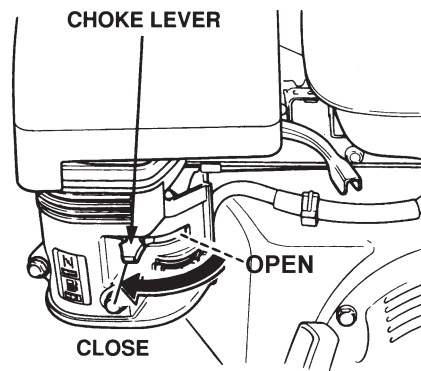

Figure 14. Choke Lever
4. Place the **Choke Lever** (Figure 14) in the "**CLOSED**" position.
7. If the engine has started, slowly return the choke lever (Figure 14) to the **"OPEN"** position. If the engine has not started repeat steps 1 through 6.